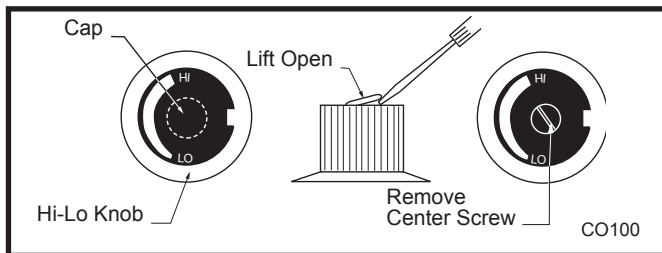

Fig. 72 Remove center screw from Hi-Lo knob.
1. Remove cap from HI/LO knob. This can be accomplished by lifting the plastic cap off the screw. (Fig. 72)
2. Remove the screw from center of HI/LO knob with small screwdriver turning counterclockwise. (Fig. 72)